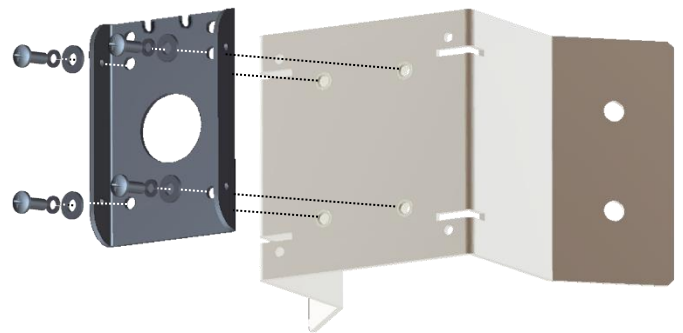

Figure 2 – Corner Mount (right) w/ Mount Bracket (left) from 2020WMA-1 Wall Mount
3. Attach the 2020WMA-1 mount bracket to the corner mount using the fasteners provided with the corner mount (see Figure 2).